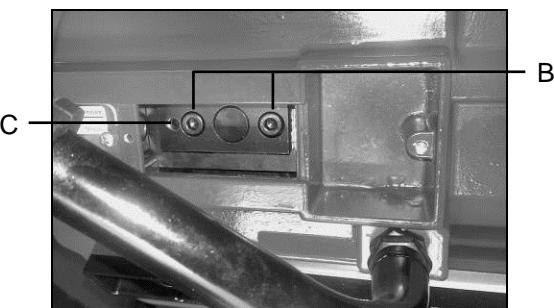

Fig. 23
6. Loosen bolts (B, Fig. 23) a little bit.
7. Turn setscrew (C, Fig. 23) while observing blade tracking on wheel. Turn setscrew (C) clockwise to track blade closer to the wheel flange. Turn set screw counter-clockwise to track blade away from the wheel flange.
8. Once tracking is set, tighten bolts (B).
9. Recovery the cover (A).